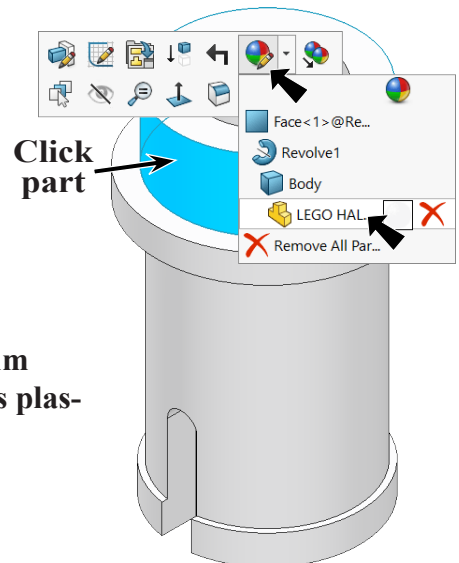

Fig. 20
Step 2. Click the part, click **Appearance Callout**  on the context toolbar and click **LEGO HALF PIN** , Fig. 20.